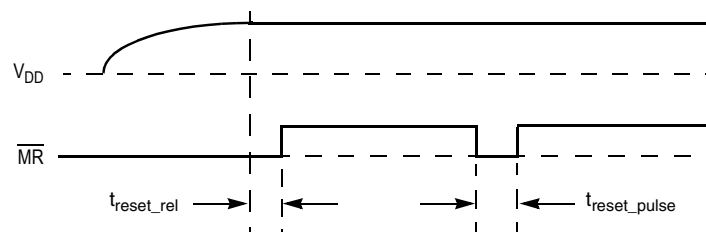

Figure 2.  $\overline{MR}$  Operation
**Figure 2** defines the release time and the minimum pulse length for  $\overline{MR}$  pin. The  $\overline{MR}$  release time is based upon the power supply being stable and within  $V_{DD}$  specifications. See **Table 11** for actual parameter values. The MPC9850 may be configured after release of reset and the outputs will be stable for use after lock indication is obtained.